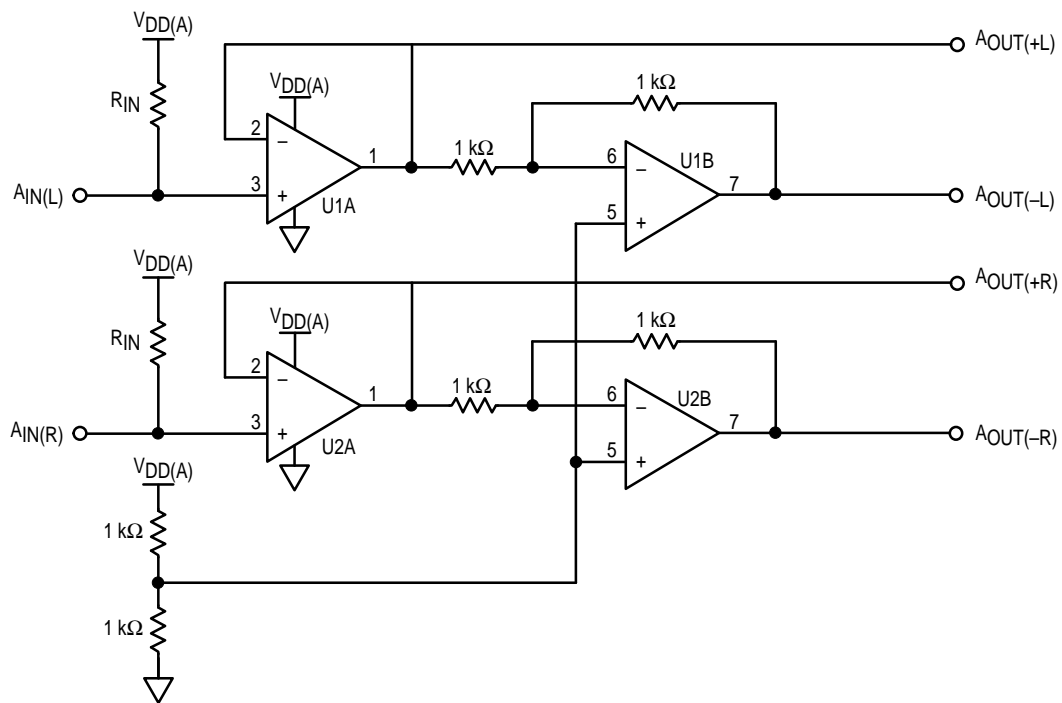

Figure 1. Input Buffer-Driver
(Full Temperature, CLK = 6.144 MHz in div1, $V_{DD(A)} = V_{DD(D)} = 5.0$ V, 1007.8 Hz Full-Scale Input Sinewave, 1.4 V p-p @ $A_{IN(L)}$ and $A_{IN(R)}$, Common Mode Input Voltage = 2.5 V. Measured bandwidth is 23 Hz to 24 kHz, inputs driven differentially per Figure 1.)
* For best performance $A_{IN}(+L)$, $A_{IN}(-L)$ and $A_{IN}(+R)$, $A_{IN}(-R)$ should be differentially driven. $A_{IN}(+L)$ or $A_{IN}(+R)$ (and $A_{IN}(-L)$ or $A_{IN}(-R)$) can be grounded for single ended configuration. Circuit in Figure 1 depicts input buffer circuit.